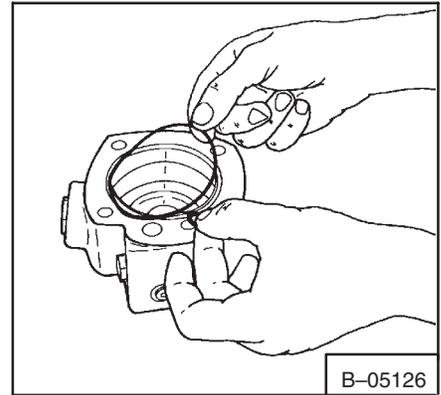

Fig. 3-73 Installing O-Rings
27. Put grease on the 0.250 inch (6,36 mm) O-rings and install them on the housing (Fig. 3-73).